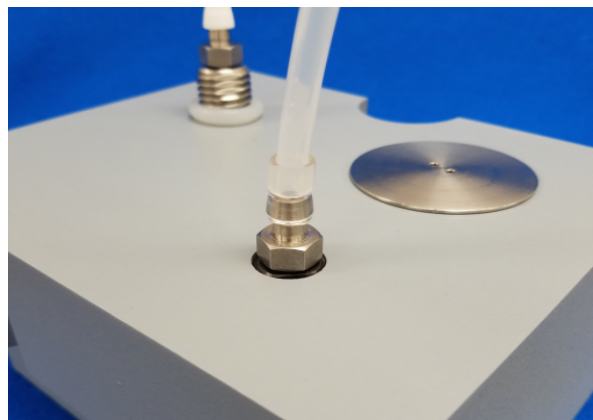

Figure 8. Mini Vapor Pin® Sample Connection
- 8) Remove the Secure Cover, re-install the barb fitting and connect the Nylaflow® sample tubing to the barb and begin sampling. This connection can be made using a short piece of Tygon™ tubing to join the Nylaflow® tubing. Push the Nylaflow® tubing as close to the top of the barb fitting as possible to minimize contact between soil gas and Tygon™ tubing (Figure 8).